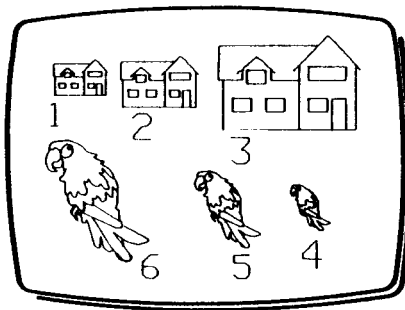

Fig 1
- 2 **Select COPY from the Menu and select any library unit from the library, placing it three times at separate locations on the screen, as (1) through (3) in Fig 1.**
- 4 Place the new unit three times, as (4) through (6) in Fig 1. This simulates an assembly of library units such as you might have in a real project.